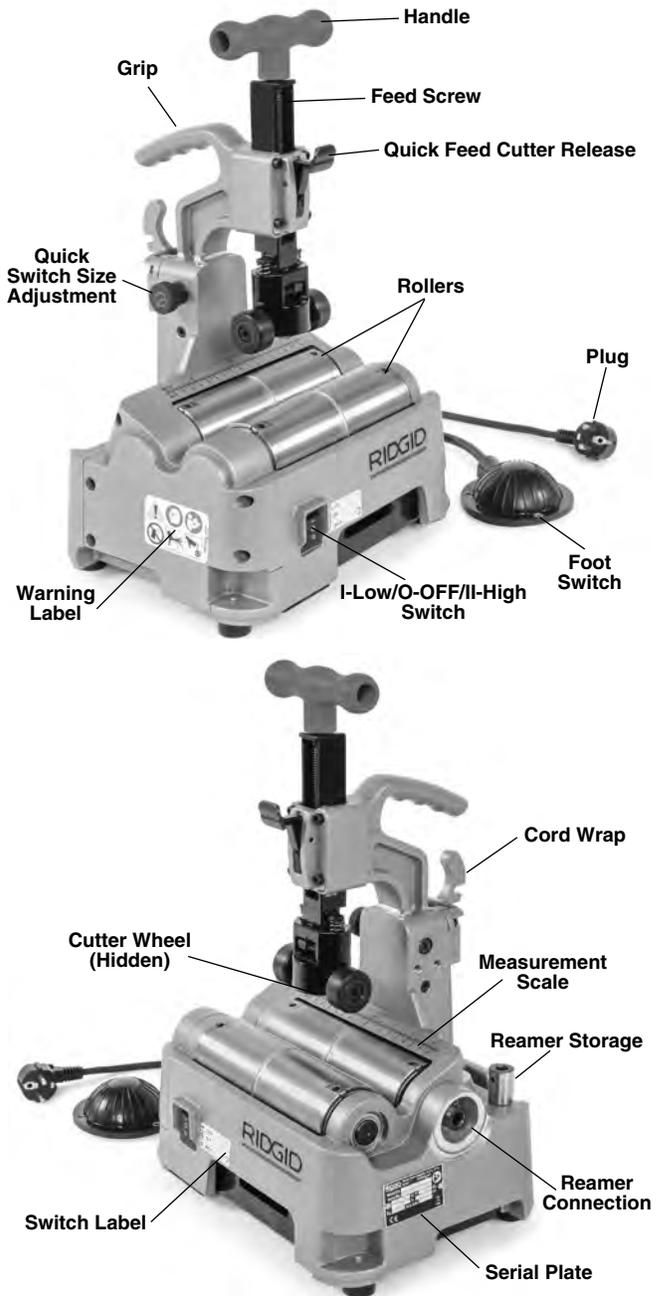

Figure 1 – RIDGID® PC116 Power Tubing Cutter
- Presence and readability of the warning and other labels (See Figure 1).